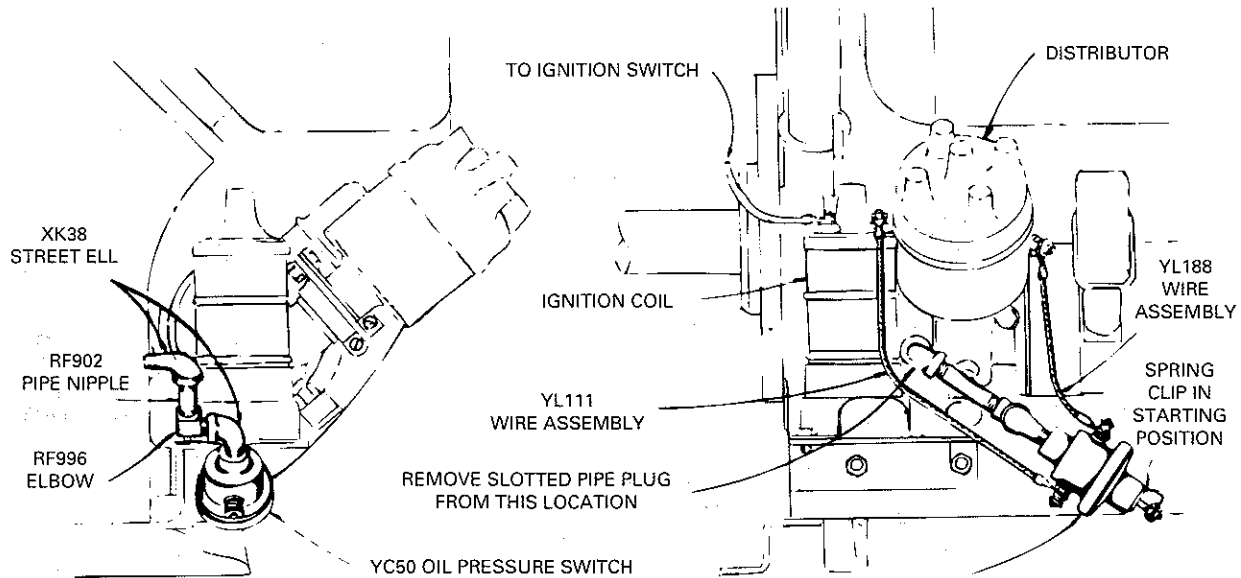

Fig. 4. Oil pressure switch mounting, with battery ignition, distributor
For engines with battery ignition, distributor, use a YC50S1 oil pressure switch kit. Mount switch as follows (see Fig. 4, page 13):
1. If ignition coil and bracket are mounted at position shown in Fig. 4, remove same, from side of crankcase, for ease in making pipe connections.